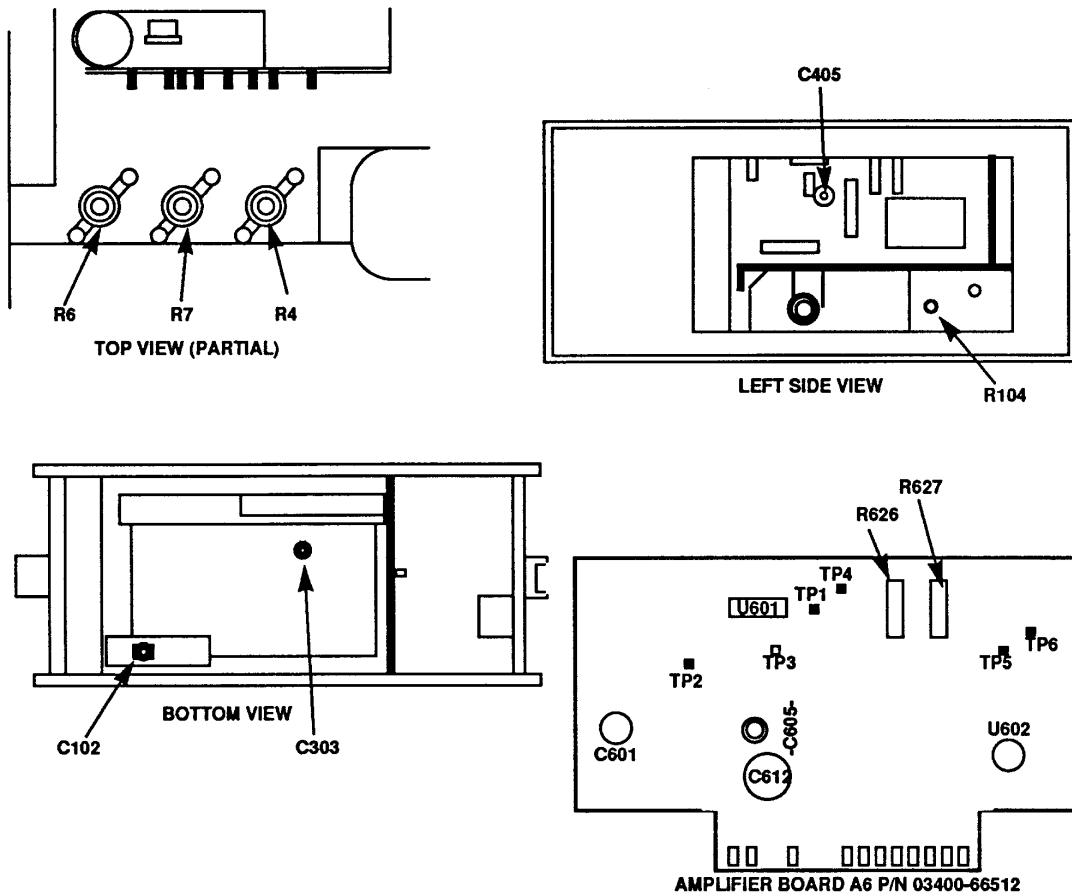

Figure 1. Test instrument - top, left side, bottom view, and A6 board, P/N 03400-66512.
(1) Adjust R4 (R627 for TIs with amplifier board A6, P/N 03400-66512) (fig.1) until digital multimeter indicates -1.00 V.
(2) If necessary, adjust R6 (fig. 1) for full scale indication on TI.
(3) Set calibrator for a 10 mV, 400 Hz output. Adjust R6 (fig.1) until TI indicates full scale (R).
(4) Set **RANGE** switch to **.1 VOLTS**.
(5) Adjust R7 (R626 for TIs with amplifier board A6, P/N 03400-66512) (fig. 1) until TI indicates 0.01 V (1 /10 scale) (R).
(6) Set **RANGE** switch to **.01 VOLTS**.
(7) Repeat (3) through (6) above until no further adjustment is necessary.
(8) Set calibrator for a 1.0 V, 400 Hz output. Adjust R104 (fig. 1) until TI indicates 1 (R).
(9) Set calibrator for an initial 900 μ V 1 kHz wideband output, then adjust for the TI indication record for table 3 (.0009 V).
(10) Press calibrator **NEW REF** pushbutton, then set frequency to 10 MHz. Adjust C405 (fig. 1) for the 1 kHz reference established **b(9)** above (R).
(11) Vary calibrator frequency between 3 and 10 MHz and if required, readjust C405 (fig. 1) for best in-tolerance condition.
(12) Set calibrator for an initial 0.9 V, 1 kHz wideband output, then adjust for the TI indication recorded for table 3 (0.9 V).
(13) Press calibrator **NEW REF** pushbutton, then set frequency to 100 kHz. Adjust C102 (fig. 1) for the 1 kHz reference established in **b(12)** above (R).
(14) Vary calibrator frequency between 100 kHz and 10 MHz and, if required, readjust C102 (fig. 1) for best intolerance condition.
(15) Set calibrator for an initial 0.3 V, 1 kHz wideband output, then adjust for the TI indication recorded for table 3 (0.3 V).
(16) Press calibrator **NEW REF** pushbutton, then set frequency to 3.0 MHz.). Adjust C303 (fig. 1) for the 1 kHz reference established in **b(15)** above (R).
(17) Vary calibrator frequency between 3 and 10 MHz and, if required, readjust C303 (fig. 1) for best in-tolerance condition.